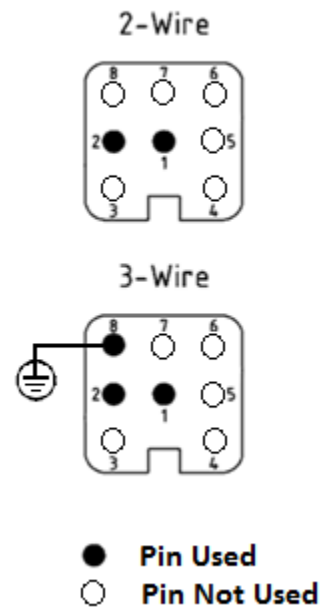

Figure 3. Wiring scheme.
- (1) KTA qualification testing was performed using 356 Nuclear Connectors (zinc die cast) fabricated with Wadi EMC cable glands and Eupen cable, which were then installed on Rosemount 3152 & 1152 Pressure Transmitters. Perfect EMC cable gland is qualified to same levels by similarity. SST connectors are qualified by similarity analysis and test. Analysis or test may be required to demonstrate performance of other cable glands or cables.
- (2) The end user must take care to assemble field side kits in accordance with approved instructions. The end user is responsible for on-site assembly of field side connectors.
- (3) Explanation of "assemble to" flag and polarity:
- code "1": Instrument side connector is factory-installed with pin 1 to positive terminal (see Figure 3).
- code "2": Instrument side connector is factory-installed with pin 2 to positive terminal (see Figure 3).
- (4) If ordering option code P4, contact Rosemount Nuclear Instruments, Inc. for wiring information.